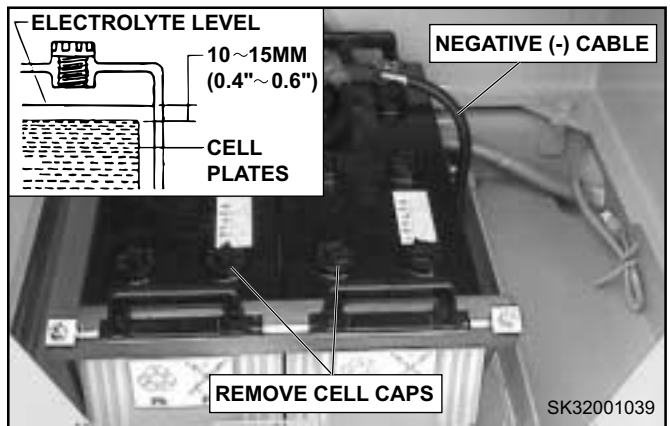

FIGURE 4.32C
2. Remove battery cell caps and visually inspect electrolyte (acid) level. Proper level is 10~15 mm (0.4" ~ 0.6") above cell plates. See Figure 4.32C.